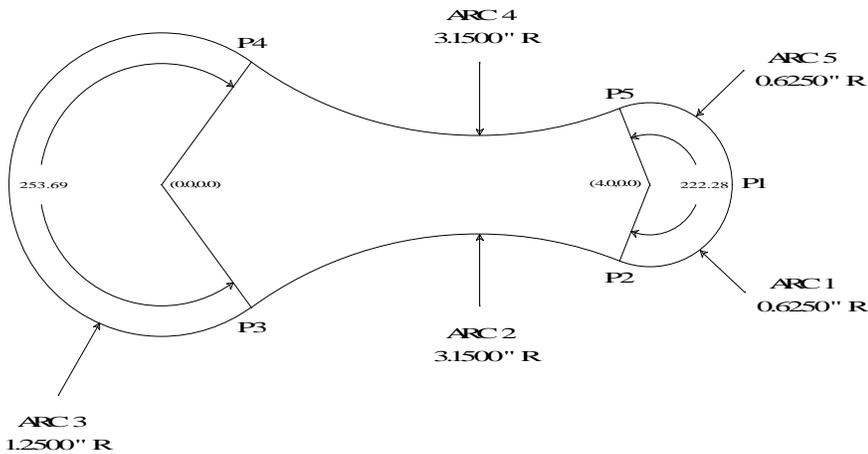

FIG 3. - Tangent point and arc reference.
F3 Arc (G2 & G3) The first arc to be cut is labeled as ARC 1 in Figure 3 below. The start point, labeled P1, is the end point of the previous move. The end point of the arc will be generated with Math Help. We will be using end point and radius (EP&R) arcs.
- F6** Tangent Arc Arc Arc This scenario will generate tangent points P2 - P5 of Figure 3. Enter the values as shown below:
| ARROWS | Move Cursor | Move down to the radius field and enter the radius of the arc labeled as ARC 1 in Figure 3. (This radius is 0.6250 in.). |
- F3** Arc (G2 & G3) The next arc to be cut is labeled as ARC 2 in Figure 3. The start point is labeled P2, the end point of the last arc.
Move down to the radius field and enter the radius of the arc labeled ARC 2 in Figure 3 (this radius is 3.1500 inches). Set the direction to “CCW”.
The third arc to be cut is labeled as ARC 3 in Figure 3. The start point is labeled P2, the end point of the previous arc. The end point of the arc will be generated with Math Help.